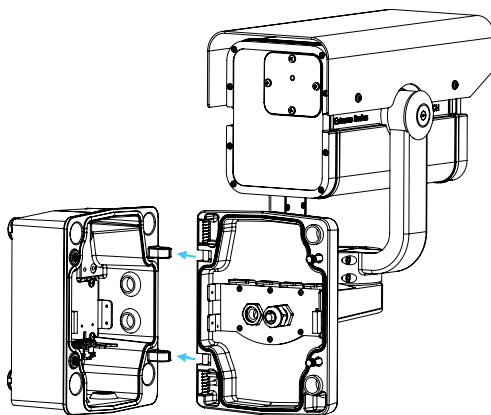

Figure 4.3 Camera Box Hinge Alignment
3. Cut and trim all wires with sufficient slack to reach their connector terminals in the box, but not so long as to be pinched (about 5 mm (0.2 in.) of insulation). See *Figure 4.3, Page 23*, above, for the connector locations.
3. While continuing to hold the top hinge pin, open and align the top and bottom hinges of the camera arm to their mating points on the junction box. See *Figure 4.3*, above.